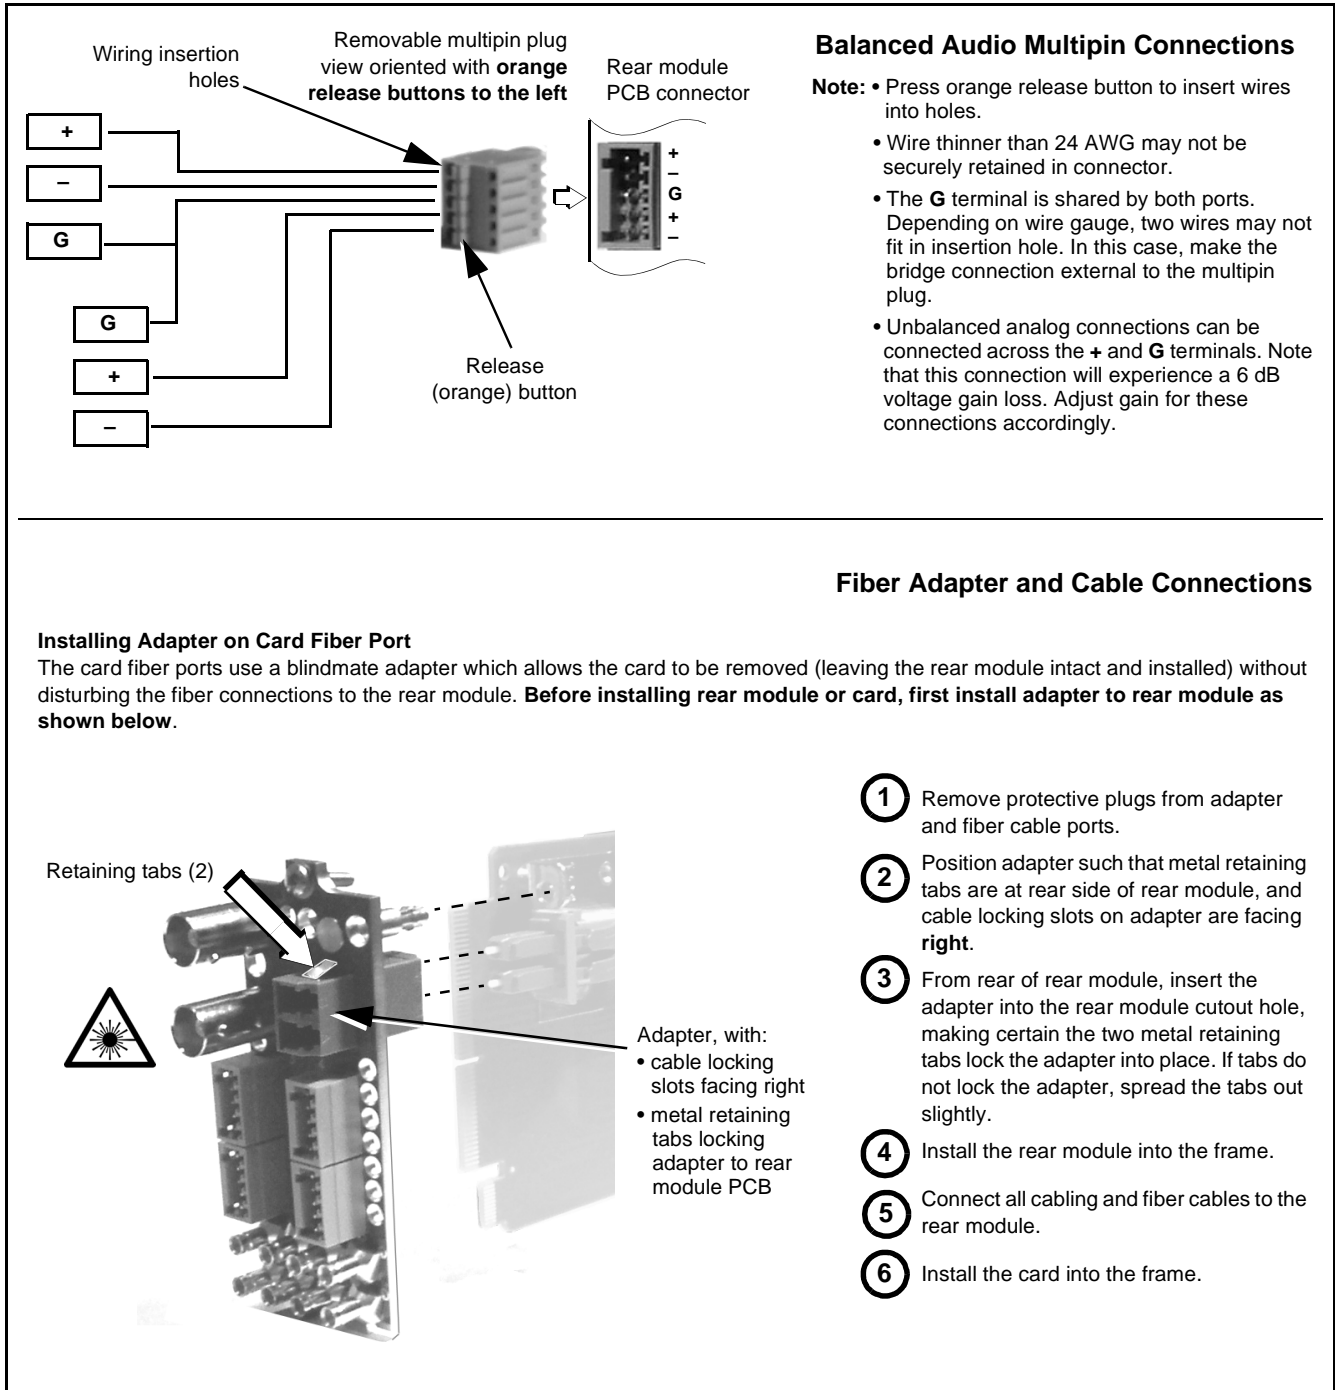

Figure 2-2 Fiber and Balanced Audio Connections
Figure 2-2 shows connections to the card multi-pin terminal block connectors. These connectors are used for card balanced audio connections. Figure 2-2 also shows how to install the blindmate fiber adapter to the rear module.
**Note:** It is preferable to wire connections to plugs oriented as shown in Figure 2-2 rather than assessing orientation on rear module connectors. Note that the orientation of rear module multi-pin audio connectors is not necessarily consistent within a rear module, or between different rear modules. If wiring is first connected to plug oriented as shown here, the electrical orientation will be correct regardless of rear module connector orientation.